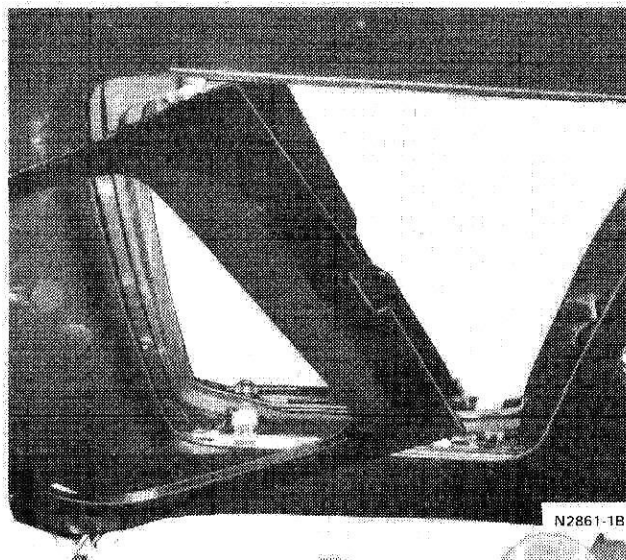

FIG. 2 Halo Moulding Removal
4. For Lincoln and Mark V vehicles, lower the front edge of the halo moulding, cycle the sliding panel to fully closed position. Then turn the halo moulding sideways and down as shown in Fig. 2.